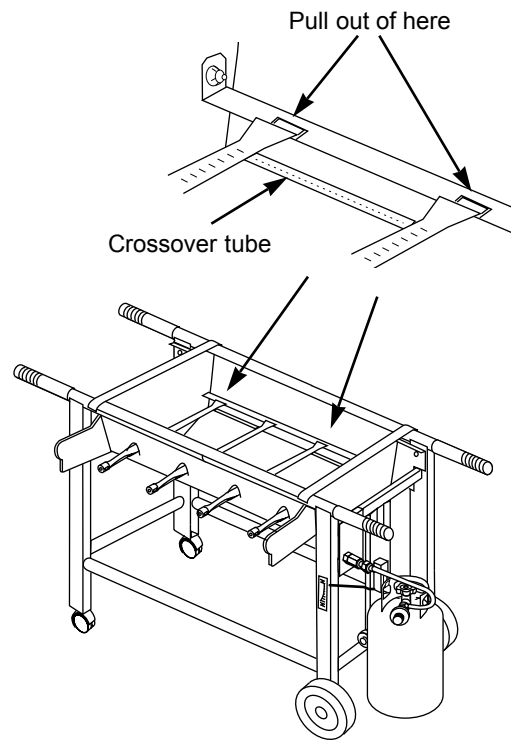

Figure 13
12. Slide the burner assembly from each Heat Zone. The left and right burners are connected by the Crossover tube. Figure 13 (a).